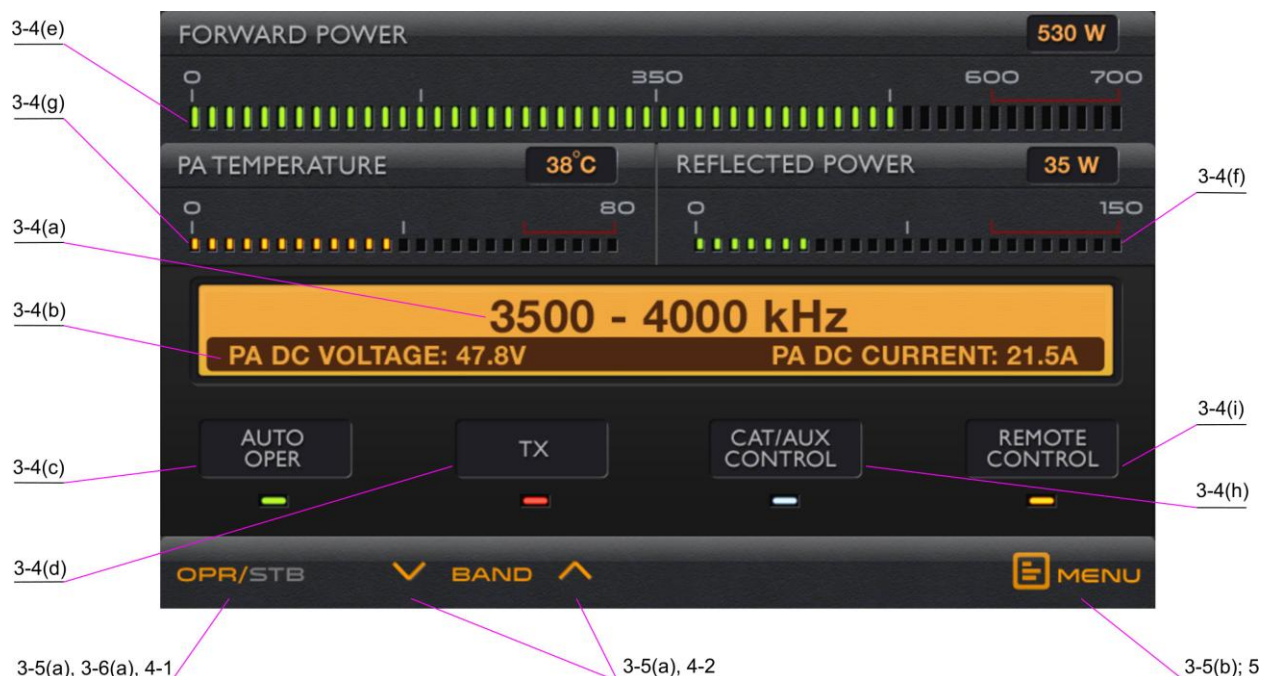

Fig. 3-2 Basic screen
- In some cases, when the transceiver is powered on after the amplifier, you may need to press and hold up for one second the button BAND of the amplifier, up or down (Fig. 3-2), to make the transceiver inform the amplifier about its frequency; in other occasions, the transceiver transmits its frequency only on changes and you may need to move slightly the main frequency dial knob or change it in another way in order to announce it to the amplifier after an initial power turn on;
In order to activate the main power supply at starting amplifier operation, press and hold on the ON/OFF button on the front panel for one or two seconds - about three seconds later the display will flash and show the **basic screen** showing the amplifier status and operation - Fig. 3-2.
- a) The OPR/STB and the BAND (up and down) buttons are used for manual (local) control of the amplifier in the basic screen (Fig. 3-2):
- b) The right-most button – MENU (Fig. 3-2) – serves for access to the list of menus.
- the EXIT button can be used at any time to leave the currently used menu or the menu list for possibly easiest and fastest “return” to the basic screen (Fig. 3-2).
After a successful check-up with non-powered amplifier, item (a), turn on its mains power supply and run it to the basic screen, as described in Sections 3-1 to 3-4 (Fig. 3-2).
For this check-up it is necessary that the amplifier is in the Stand-by mode. If the AUTO OPER option has been activated at any previous switching on of the amplifier, it will automatically start in the AUTO OPER mode (Fig. 3-2 and S. 5-4) immediately after turning power on. In such a case, press once the OPR/STB button to return the amplifier manually to the Stand-by mode.
Now press the OPR/STB button to put manually the amplifier in Operate mode (S. 3-2 and Fig. 3-2). The OPER or the AUTO OPER indicator must flash and the indicator RX/TX must remain in condition RX. Besides this, PA DC VOLTAGE must become 48-52V while PA DC CURRENT must remain zero.
In the basic screen (Fig. 3-2) check-up whether the currently selected frequency band of the amplifier and the transceiver frequency match the antenna band. If needed (when the CAT/AUX interface between the amplifier and the transceiver is not connected), use BAND buttons (up and down) of the amplifier to switch to the desired frequency band manually.